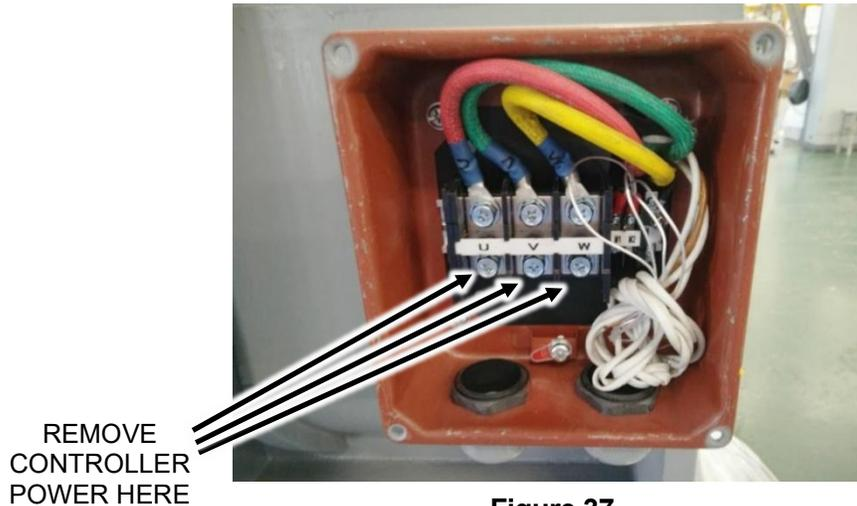

Figure 37
2. Disconnect machine power, see Figure 37.